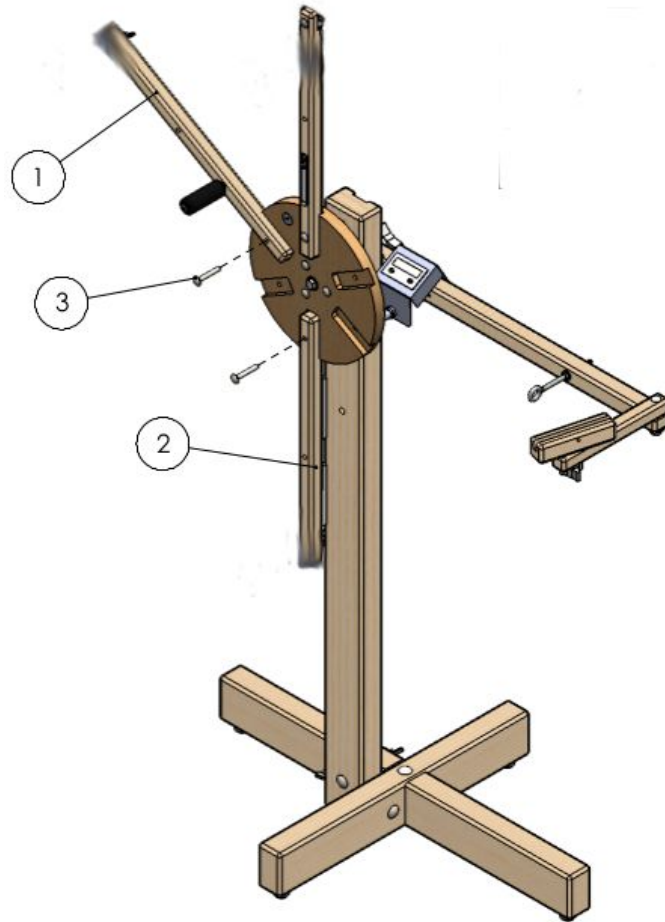

Figure 9 – Spokes with weight and handle
- 3) Then take the spoke with the weight on it and mount it in the six o'clock location on the drum assembly, with the weights facing toward the stand (vertical). (Figure 9)
- 4) Take the spoke with the Handle on it and mount it in the location shown in Figure 9.